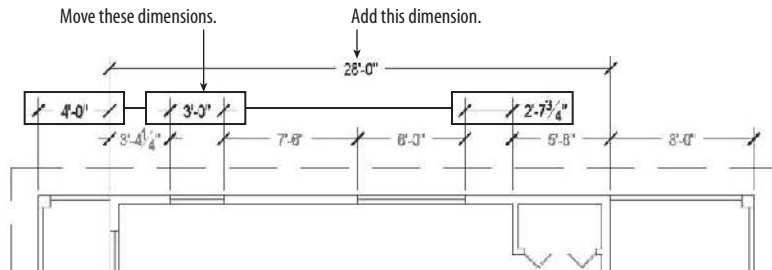

FIGURE 12.20 Adjusted dimensions with an overall cabin dimension added
8. Select the dimensions that need adjustment, and use the grips near the arrows or at the text to adjust the dimension line or text location (see Figure 12.20).
9. Add a linear dimension from the end of the front deck to the beginning of the cabin, and another overall dimension from one end of the cabin to another, as shown in Figure 12.20.